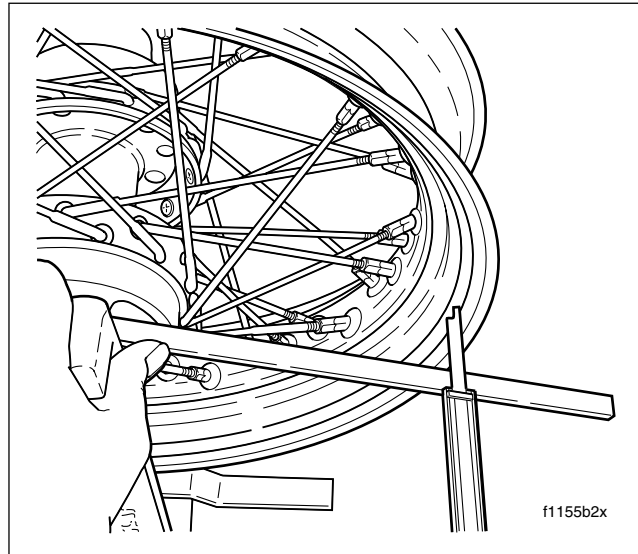

Figure 2-28. Checking Steel Laced Hub Offset Dimension
3. Lay a straightedge across the hub brake disc flange (valve stem side of dual disc front wheel) and one of the marked spoke groups. Measure the distance from the straightedge to the edge of the rim as shown in Figure 2-28. Be sure to subtract the thickness of the straightedge.